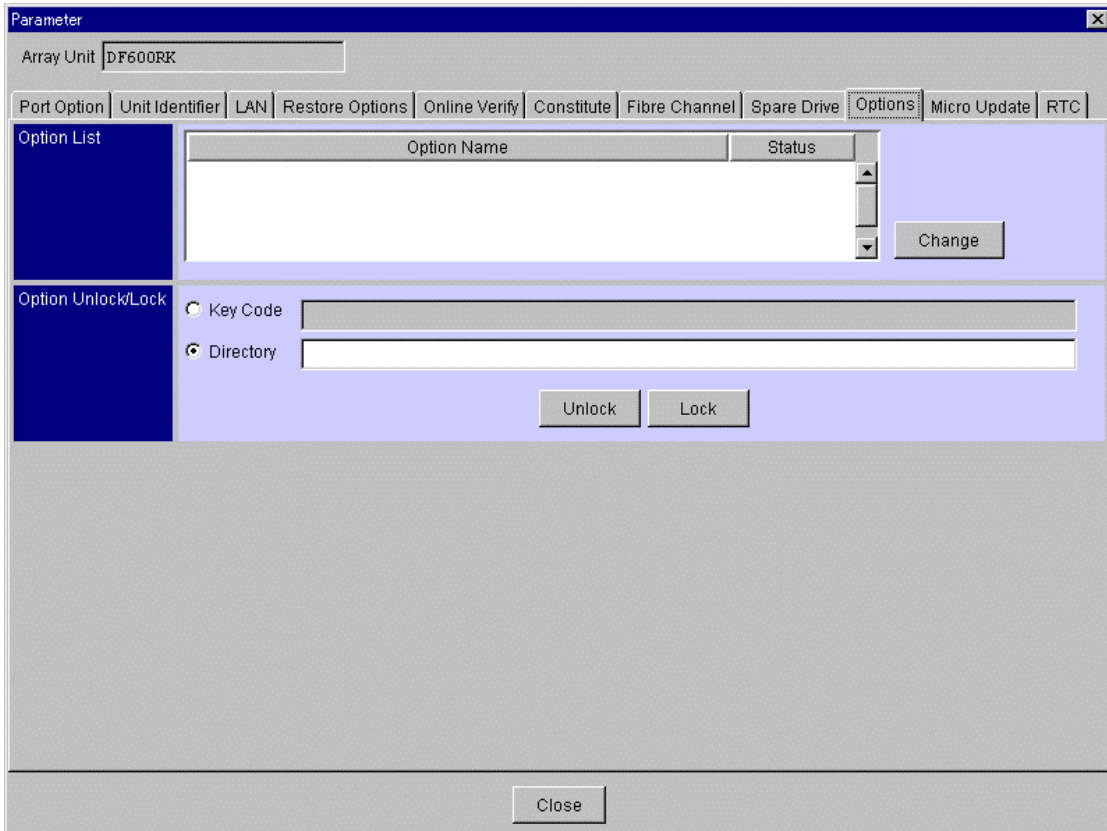

Figure 4.2 Parameter Dialog Box
3. From the **Settings** menu, select **Configuration Settings**. Alternatively, from the tool bar, select the **Configuration Settings**  button. The Parameter dialog box is displayed (see Figure 4.2).